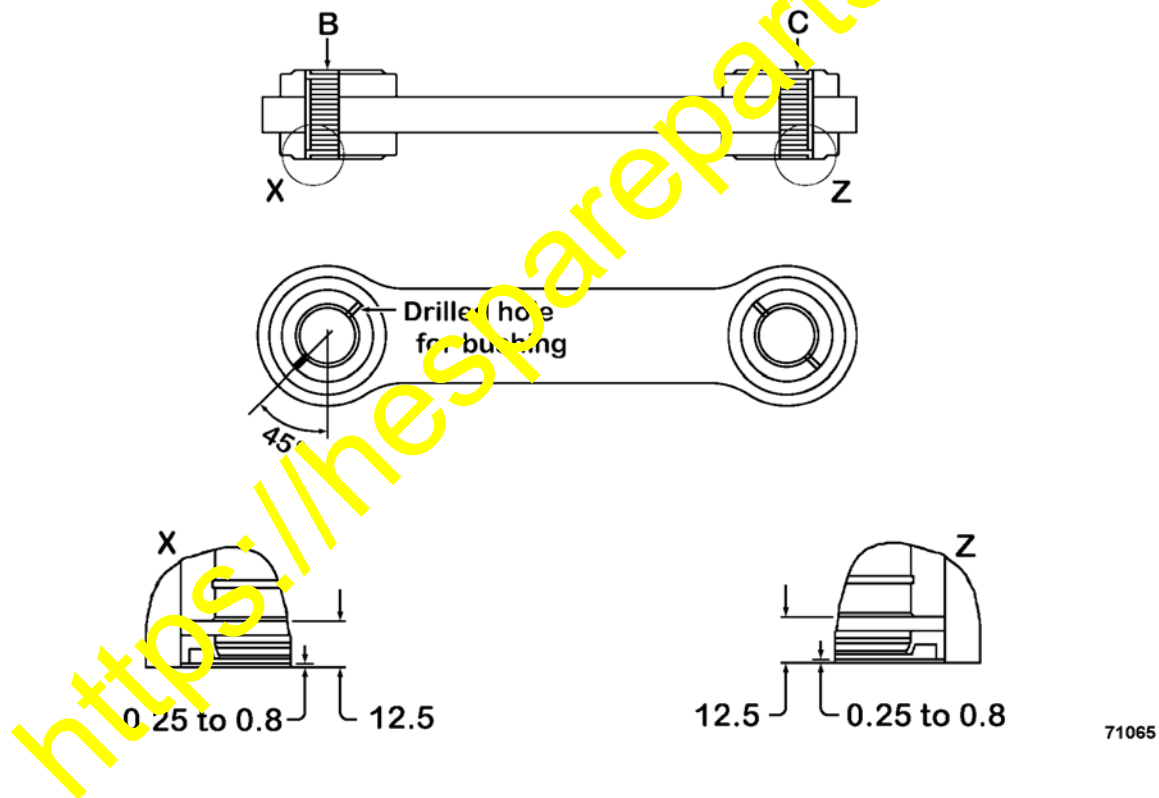

FIGURE 3. BUCKET LINK BUSHING AND DUST SEAL INSTALLATION
- Use care when installing bucket link bushings. The lube holes in the bushings and the link must be aligned. Refer to Figure 3. Failure to align the holes may result in seizure of the joint.
- Position the sealing lip outward when installing dust seals. Refer to Figures 3 and 4 for dust seal orientation and installation dimensions.